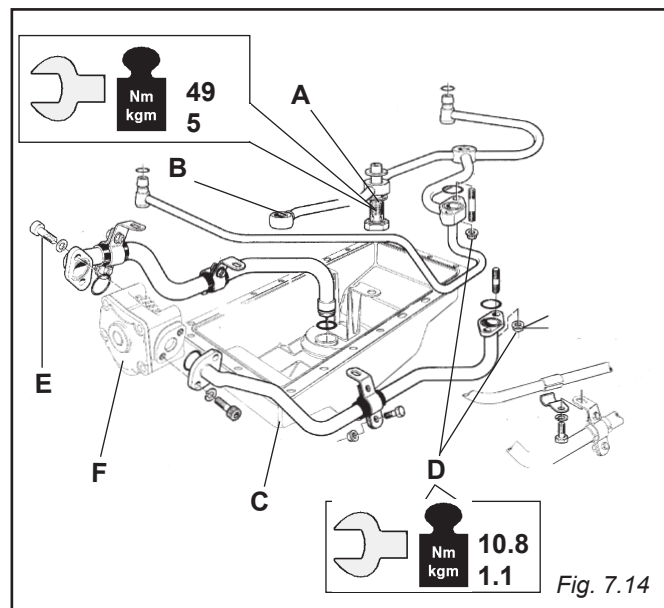

Fig. 7.14
7.14 OIL FEED PIPELINE UNIONS AND FIXINGS (FIG. 7.14 - 7.15)